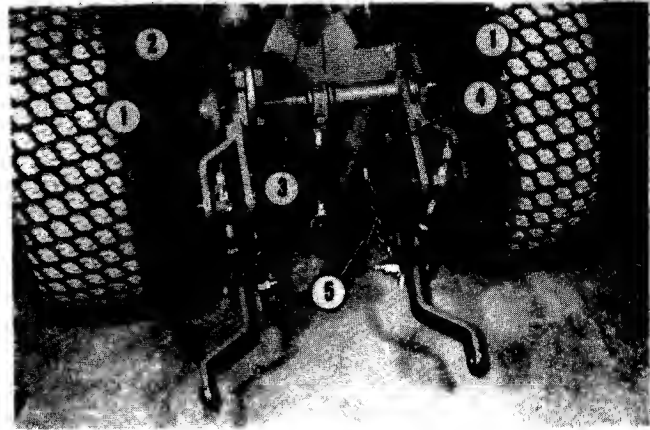

FIG. 4.32-THREE-POINT HITCH PARTS
7. Remove three point hitch if equipped, Fig. 4.32, as follows: